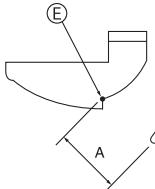

Fig. 7-10
- ③ To adjust the desired airflow direction, slowly move the up/down vanes within the specified range. (Fig. 7-10)